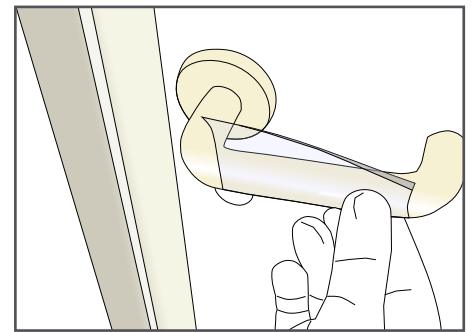

Figure 17
- › Continue the film application wrapping all round the handle while moving with your hand from left to right so as to properly apply the film all over the full width of the handle.(FIG. 17)